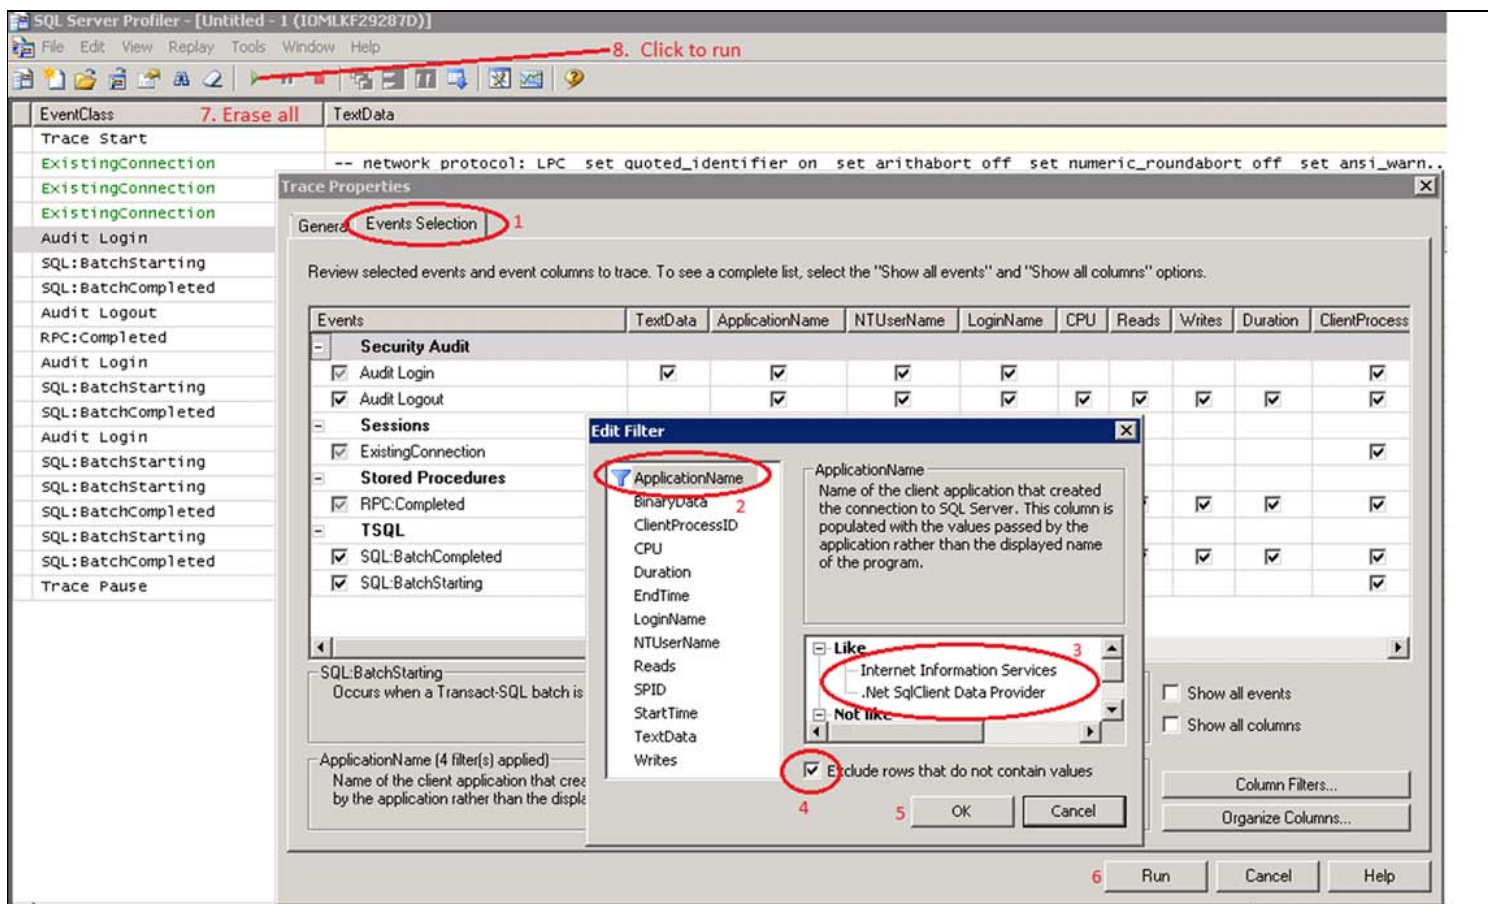

FIGURE 8: PREPARE CATCHING RUNTIME INFORMATION
1. Add the two items below in the SQL Profiler's Column Filters and following the steps listed in the Figure 8.